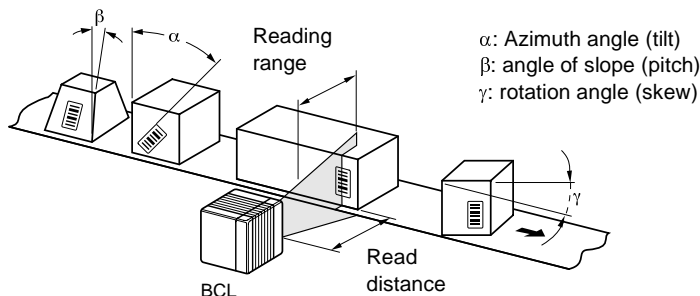

Figure 6.6: Line scanner: possible read angle between scan line and bar code
The optimum alignment of the BCL is accomplished when the scan line scans the code bars almost at a right angle (90°) (Figure 6.4). All read angles that are possible between the scan line and bar code must be taken account of (Figure 6.6 and Table 6.1).
- for line scanners with oscillating mirrors, the broad lateral wall (back side of the oscillating mirror) is almost parallel to the bar code surface.During the adjustment of the position, take account of all possible reading angles in subsequent readings (Figure 6.6).